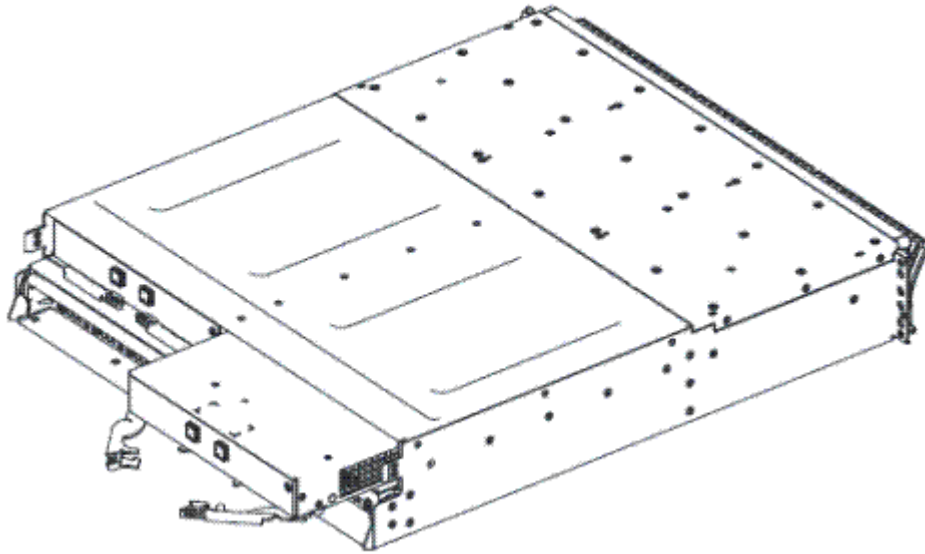

Figure 107. Removing and replacing the IBM Storage FlashSystem expansion canister
6. Open the two release levers as shown in Figure 107 on page 160.